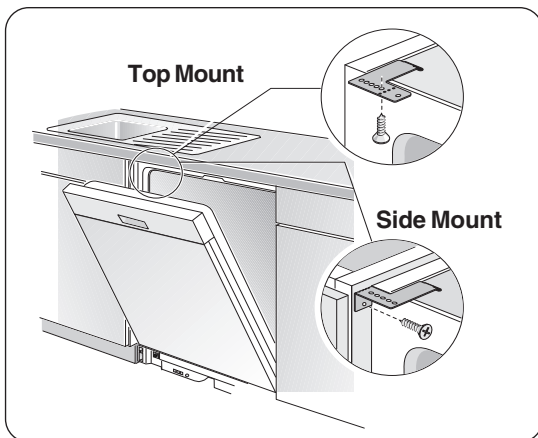

Figure 20
- 1 Drive the mounting screws through the holes in the mounting brackets as shown in **Figure 20** for Top Mount or Side Mount.